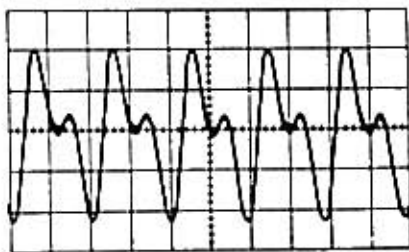

Fig. 1-6-5 RMS Symmetry Adjustment (Incorrect)
2. Adjust R135 to obtain a clean 200 Hz sine-wave on TP01 (see Figs. 1-6-5 & 1-6-6).